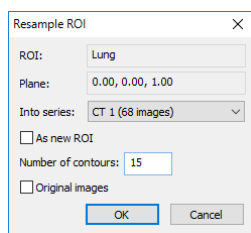

Figure 260 – Resample ROI dialog
2. Select the ROI to be resampled in the ROI list and click the **Resample...** button. The **Resample...** dialog is then displayed (see Figure 260).